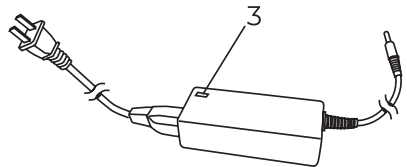

Fig. 7c
- When the indicator light (3) on the charger changes from red to green (see Fig. 7c), do not stop charging immediately. Continue charging the battery for an additional 0.5 hours.